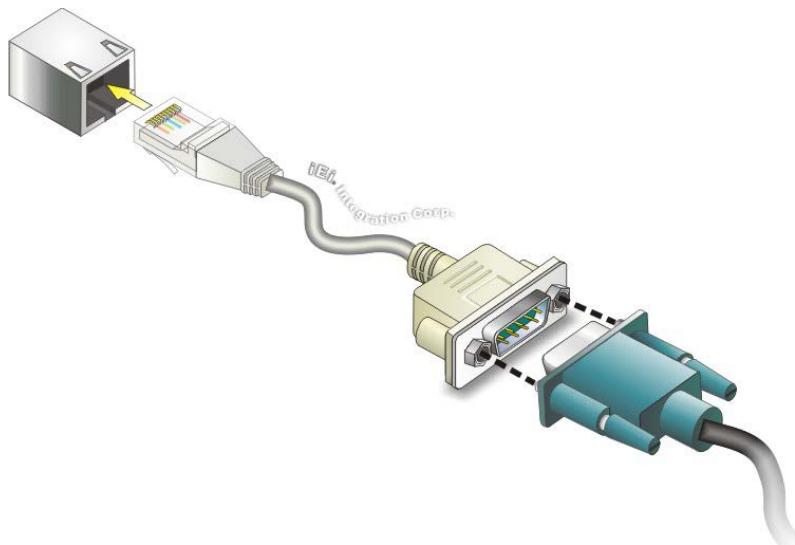

Figure 4-22: RJ-45 Serial Port Connector
Step 2: Connect the RJ-45 to COM port cable to the panel PC. Insert the RJ-45 connector end of cable into the RJ-45 serial port. See **Figure 4-22**.
Step 3: Connect the serial device. Connect a serial device to the D-sub 9 connector end of the cable. See **Figure 4-22**.